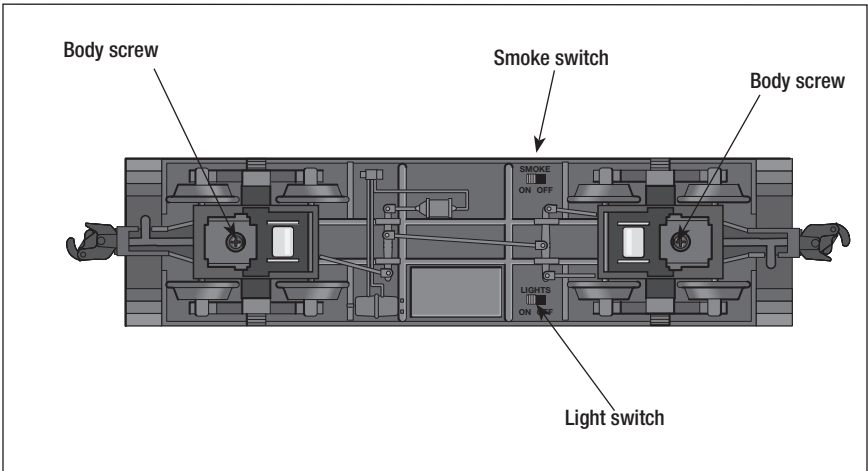

Figure 3. Smoke switch and screw locations
**A**s illustrated in Figure 3, the SMOKE switch is located on the underside of your caboose. Sliding this switch to the ON position will activate the smoke generator. Be sure that you have added smoke fluid when the switch is in the ON position. Slide the switch to the OFF position to turn off the smoke unit.